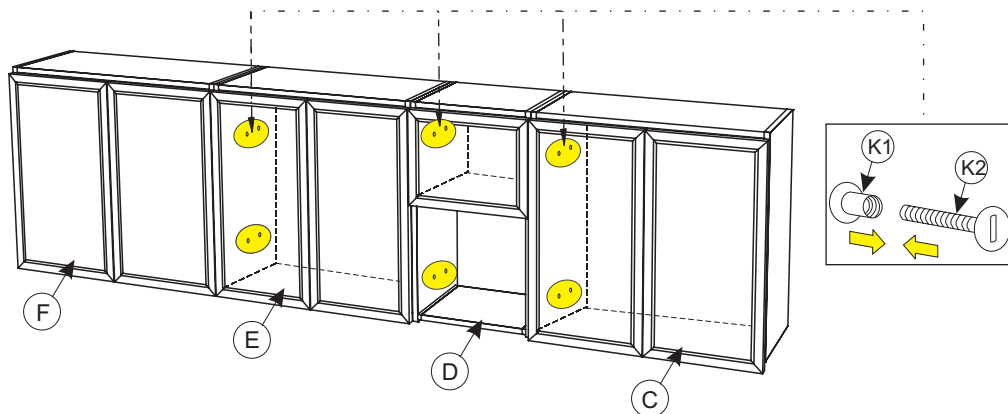

Figure 6a
Team Lift and hang remaining Wall Cabinets (D, E, and F) (see Figure 6a). Secure Wall Cabinets together by inserting (4) Connectors (K1 and K2) through the (4) holes in each Wall Cabinet end (see Figure 6a).